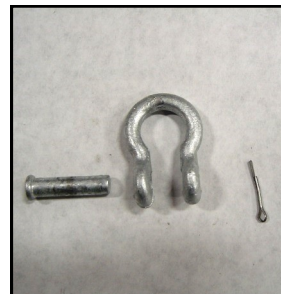

Fig. 4.1—Lift Chain Shackle
- 4.1 Locate the Lift Chain Shackle per fig 4.1